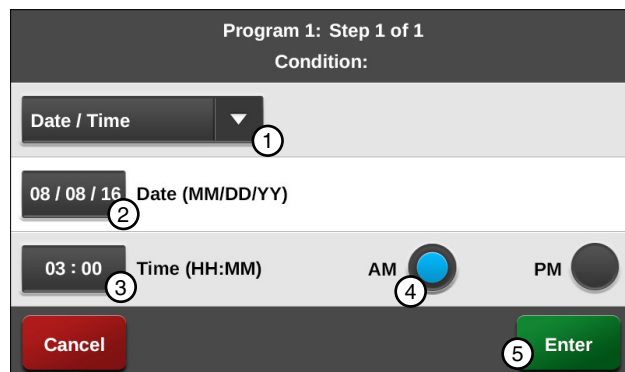

Figure 140-2 1. Date/Time Condition 4. AM
- a) Select the **Choose Condition** drop-down menu and choose **Date/Time**. Refer to Figure 140-2.